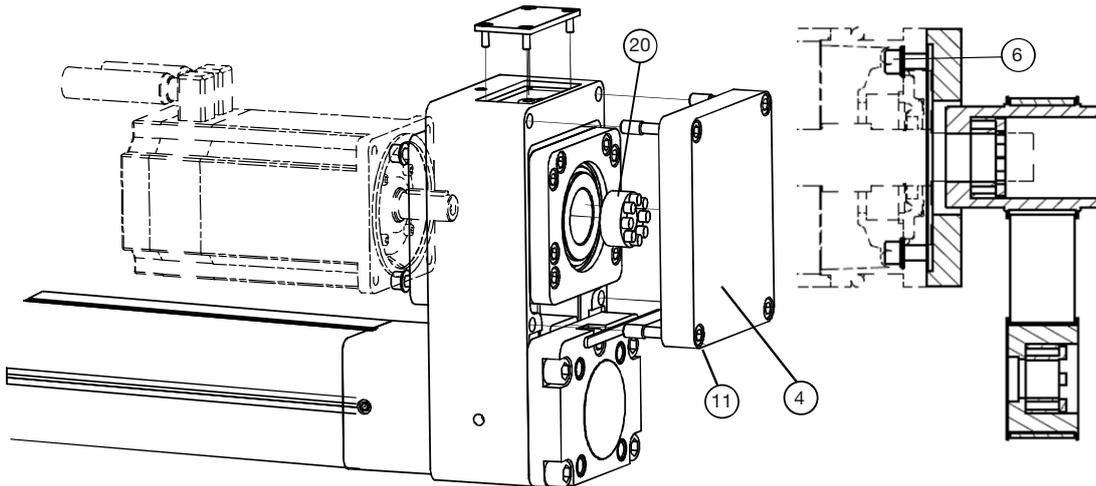
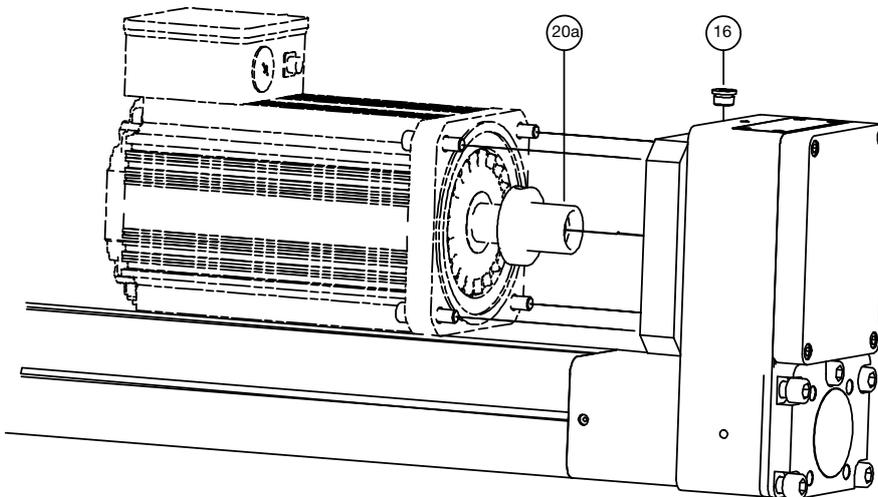

Figure 25: ETH1xx: Motor/gear assembly parallel
Figure 26: ETH1xx: Motor/gear assembly parallel with K1M-option
- ◆ Dismantle lid (please refer to Figure 25 Pos.4) and screws (please refer to Figure 25 Pos.11).
- ◆ Loosen all tensioning screws of the clamping bushing (see Figure 25 Pos. 20) (approx. 3 mm).
with K1M drive option: loosen tensioning element (please refer to Figure 26Pos.20a) via flange sided mounting hole. For this, first loosen the lock screw (please refer to Figure 26 Pos. 16) and then the adjusting screw of the tensioning element.
- ◆ Loosen motor fixing screws (please refer to Figure 25 Pos.6).
- ◆ Remove clamping unit (please refer to Figure 25 Pos.20a & Figure 26 Pos 20a).
- with K1M drive option: Insert clamping element (please refer to Figure 26 Pos. 20a) in the hollow shaft on the motor side and slide it up to the exterior stop. Adjust tensioning element so that the adjusting screw can be tightened via flange sided mounting holes.
- ◆ Insert clamping bushing (please refer to Figure 25 Pos.20) into hollow shaft and slide it up to the inner stop (not with K1M drive option).
- ◆ Afterwards tighten tensioning screws of the clamping bushing (please refer to Figure 25 Pos.20, please refer to Figure 26Pos.20a) crosswise step by step (in three turns with 1/3, 2/3 and full tightening torque), until the screw tightening torque (please refer to Table 2) is reached. You can apply counter pressure with the aid of a hook wrench, which can be inserted into the bores on the toothed pulley.
- ◆ Mount lid (please refer to Figure 25 Pos.4) and screws (please refer to Figure 25 Pos.11).